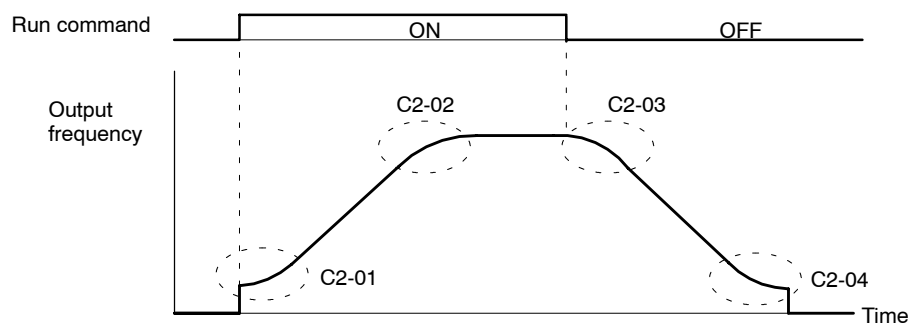

Fig 7.27 Setting S-curve Characteristics
- The relation between these constants is shown in Figure 7.27.